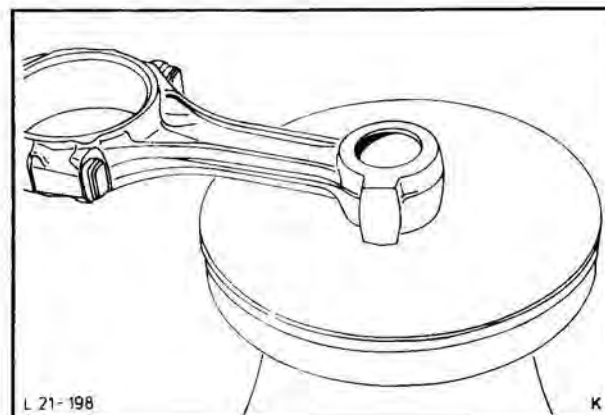

Fig. 227. Heat connecting rod
9. Heat connecting rod on a hotplate as shown in Fig. 227. Heat up piston bore to 530–570 °K (260–300 °C). To monitor temperature, mark piston bore with thermochromatic coloured pencil (Faber Castell 2815) before starting heating operation. On reaching temperature desired, colour marked on bore changes to colour of pencil cover.